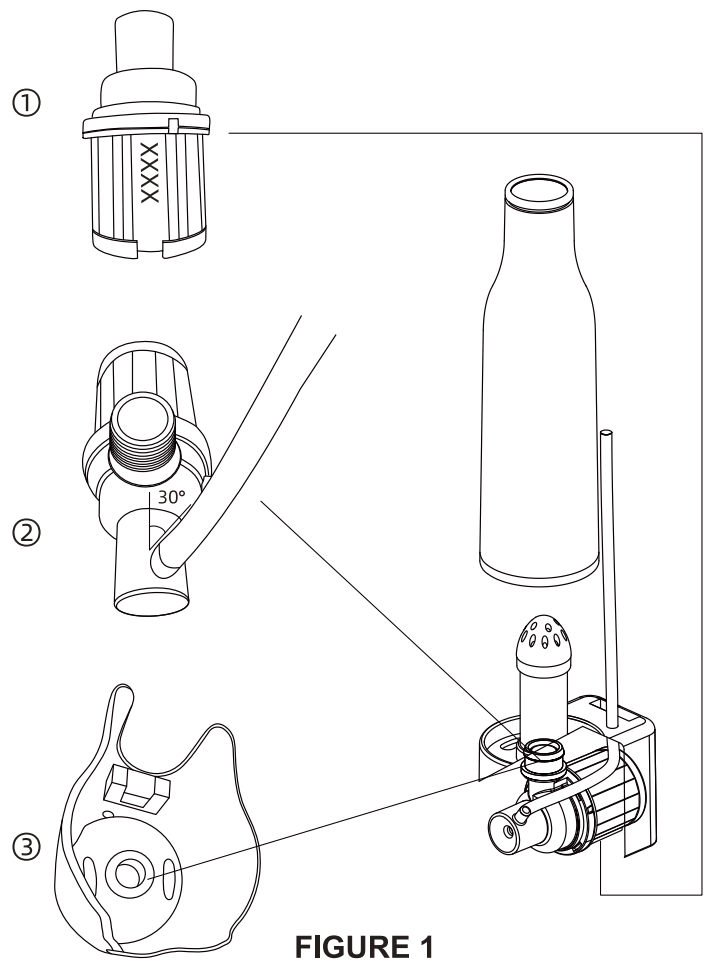

FIGURE 1
Step1--->(FIGURE 1)
- ① The production batch in the bottom is in the right position.
- ② A 30° corner between the adjust air intake nozzle and the pump outlet nozzle.
- ③ Press the water outlet into the silicon ring with your full strength.